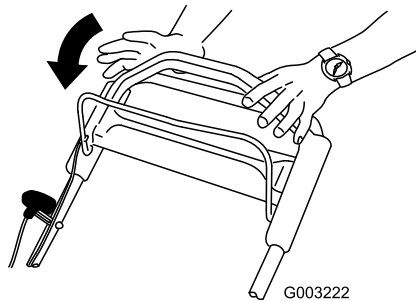

Figure 22
1. Release the blade control bar (Figure 22).